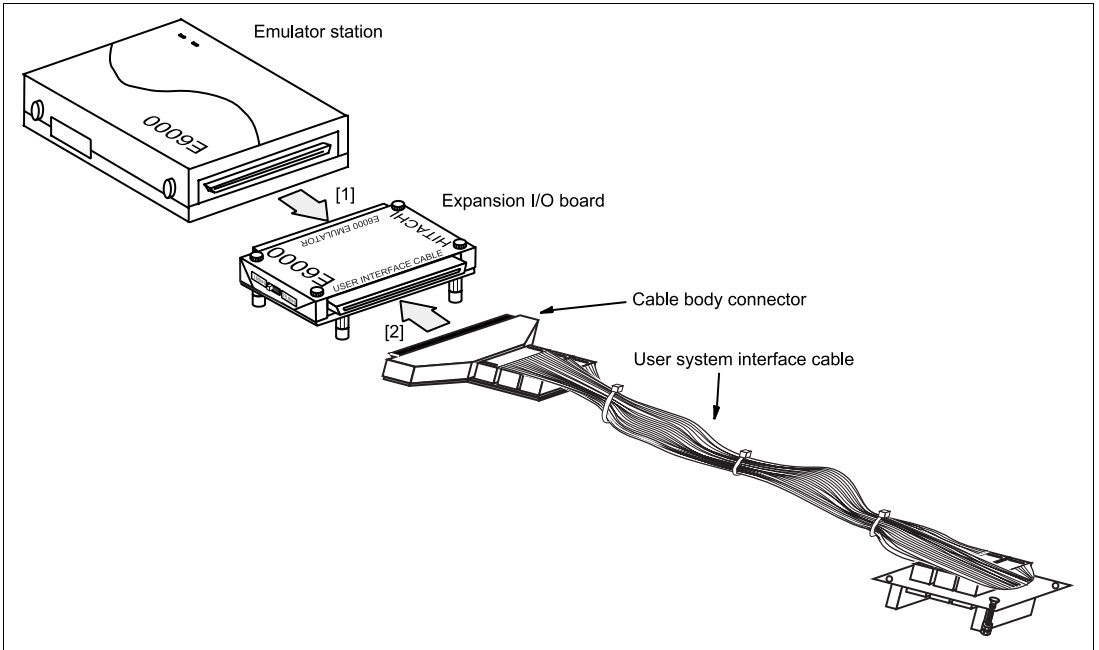

Figure 2.1 Connecting Expansion I/O Board to Emulator Station and User System Interface Cable
2. [1] After making sure the direction of the expansion I/O board connector labeled E6000 EMULATOR is correct, firmly insert the expansion I/O board into the emulator station connector labeled USER INTERFACE ([1] in figure 2.1).